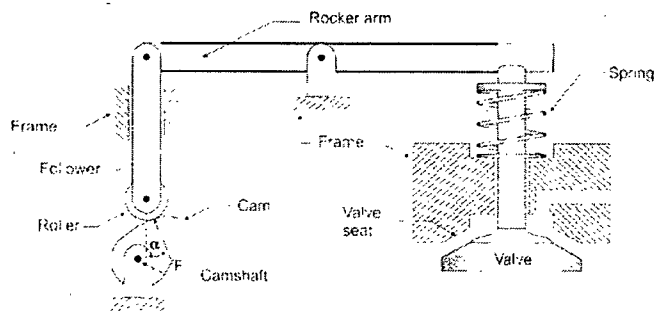

Figure 2
- 6 A schematic diagram of a cam operated valve mechanism is shown in *Figure.2*. What is ' α ' representing in the figure? Suggest a way to control it in cam design?